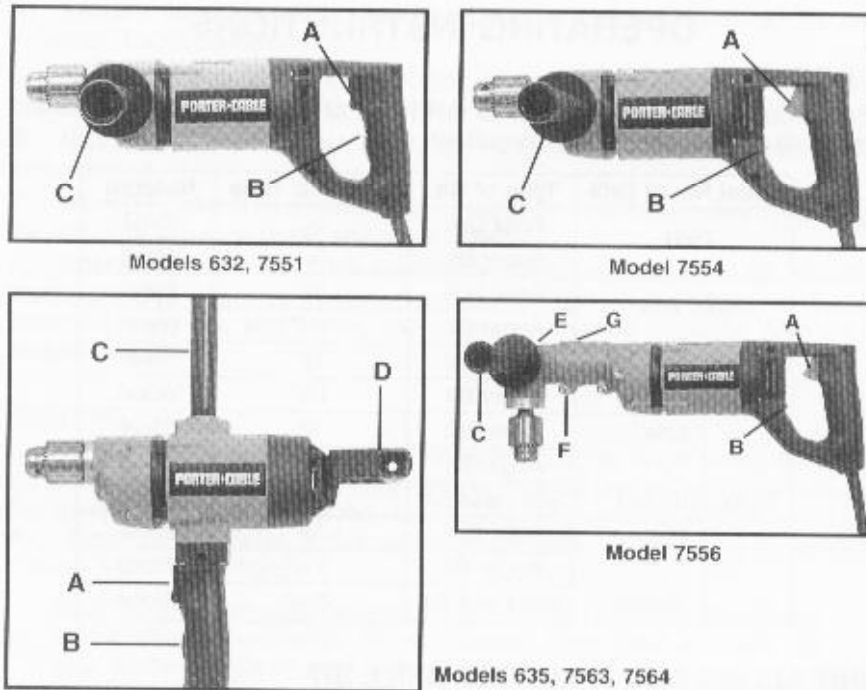

Fig. 2
A spade handle (D) Fig. 2, is furnished with some models. This handle may be assembled in any one of four positions on the back of the drill. Simply place the washer on the screw, insert screw through hole in spade handle, locate handle as desired, and tighten screw securely.
An auxiliary handle (C) Fig. 2, is supplied with some models. This handle screws directly into the drill housing providing complete control of the drill.
2. Squeeze TRIGGER SWITCH (A) Fig. 2, to start motor. Release trigger to stop motor.
3. REVERSING SWITCH - Some models are provided with a reversing switch (B) Fig. 2. These models will operate in either the forward direction (clockwise rotation) for drilling holes, or the reverse direction (counterclockwise rotation) for releasing jammed drill bits. For counterclockwise rotation, stop the motor by releasing the trigger switch and move the reversing switch to the position labeled "R", or in the opposite direction for clockwise rotation.
2. Loosen the outer sleeve screw (F) Fig. 2, and remove the right angle drive (E) Fig. 2, from the sleeve (G) Fig. 2.
An auxiliary handle (C) Fig. 2, is supplied with each drill.